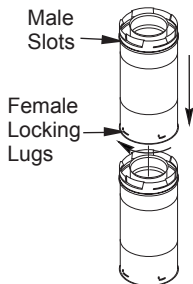

Figure 14 - Vent Pipe Connections
Twist-lock Procedure: The female ends of the pipes and fittings have four locking lugs (indentations). These lugs will slide straight into matching slots on the male ends of adjacent pipes and fittings. (All connections must be sealed with high temperature silicone sealant as specified in the second warning statement on page 11). Push the pipe sections together and twist one section clockwise approximately one-quarter turn until the sections are fully locked. See Figure 14. **Note:** Horizontal runs of vent must be supported every three feet. Use wall straps for this purpose.
2. Assemble the desired lengths of pipe and elbows necessary to reach from the fireplace flue up through the firestop. All connections must be sealed with high temperature silicone sealant as specified in the second warning statement on page 11. Be sure all pipe and elbow connections are fully twist-locked (see Figure 14, page 13).